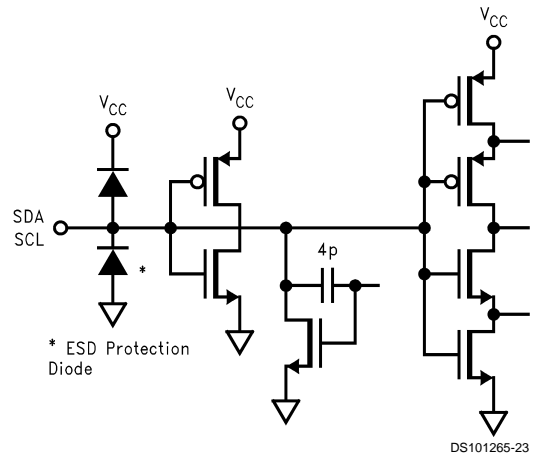

FIGURE 20. Pins 16 and 17 (SDA and SCL)
**Pin 16—SDA** The I2C data line. A pull up resistor of about 2 k $\Omega$  should be connected between this pin and +5V. A 300 $\Omega$  resistor should be connected in series with the data line to protect the IC against arcing. *Figure 29* shows the external schematic of pin 16, *Figure 20* shows the internal schematic.
**Pin 17—SCL** The I2C clock line. A pull up resistor of about 2 k $\Omega$  should be connected between this pin and +5V. A 300 $\Omega$  resistor should be connected in series with the clock line to protect the IC against arcing. *Figure 29* shows the external schematic of pin 17, *Figure 20* shows the internal schematic.